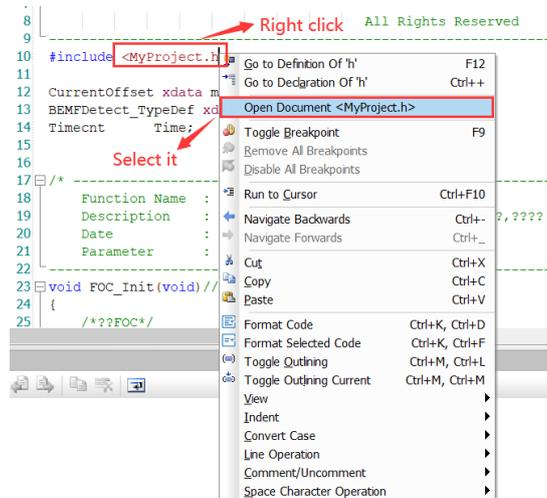

Figure 3-9
- Quickly open the header file, such as the header file contained in the C file. You can quickly open the header file, as shown in Figure 3-9.